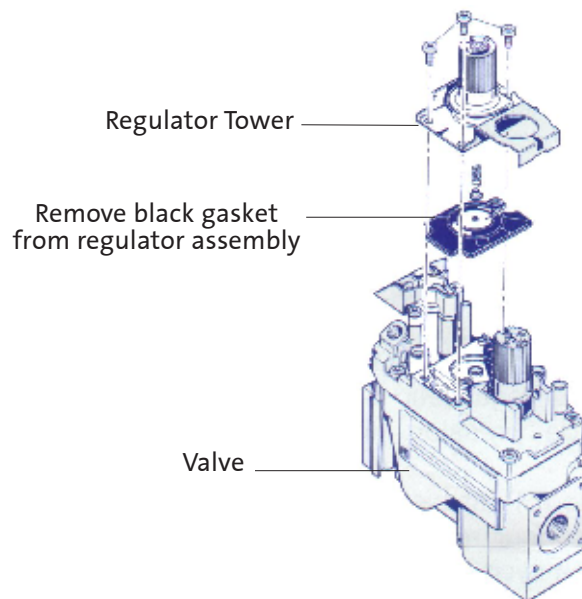

Figure 17 Regulator assembly.
13. **Replace the Variable Regulator.** Using a Torx T-20 screwdriver, remove the three screws from the front of the valve regulator. See fig. 17.
14. Remove the regulator tower, gasket, white plastic disk, and spring. See fig. 17.